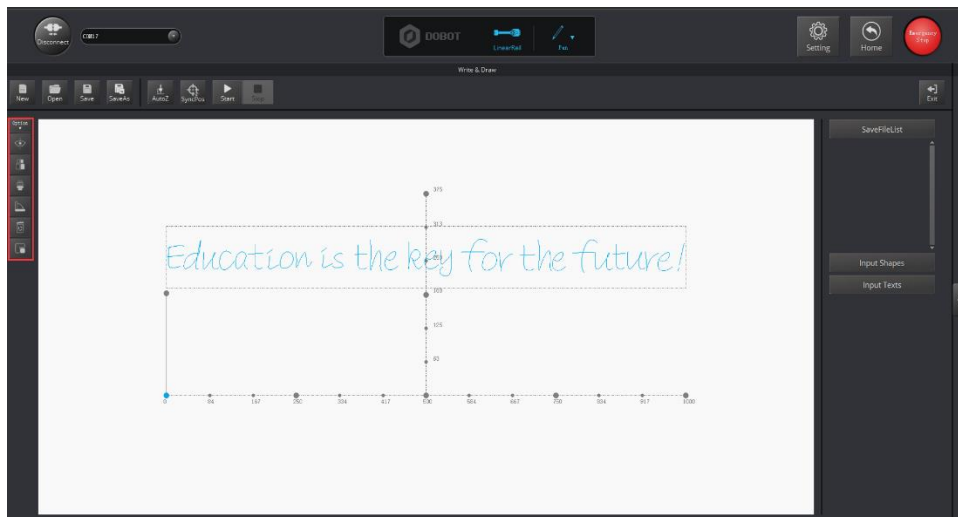

Figure 1.16 Operation Panel
**Step 6** Click options on the left side of the **Write&Draw** page to adjust position and size of characters. As shown in Figure 1.16.